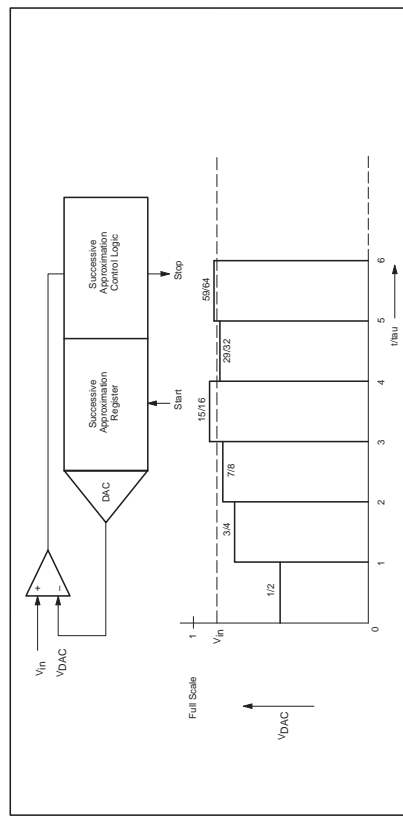

Figure 35. Successive Approximation ADC
Analog-to-Digital Conversion: Figure 35 shows the elements of a successive approximation (SA) ADC. The ADC contains a DAC which converts the contents of a successive approximation register to a voltage (VDAC) which is compared to the analog input voltage (Vin). The output of the comparator is fed to the successive approximation control logic which controls the successive approximation register. A conversion is initiated by setting ADCS in the ADCON register. ADCS can be set by software only or by either hardware or software.